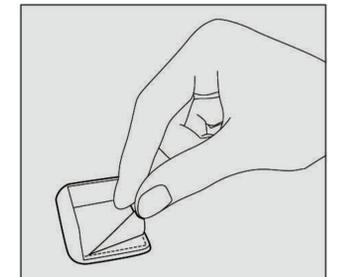
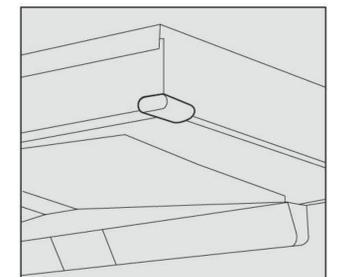

Fig.3
Fig.4
- (2) Prop the ring suction plate with both hands, make it spiral upward, push in while the ring suction plate spirals, finally make the touch claw on the ring suction plate insert into the touch button on the smoke collection hood;
10. Install anti-collision accessories, firstly remove the double faced adhesive tape (see Figure 3), then stick the anti-collision accessories to the corner of the smoke exhaust (see Figure 4);